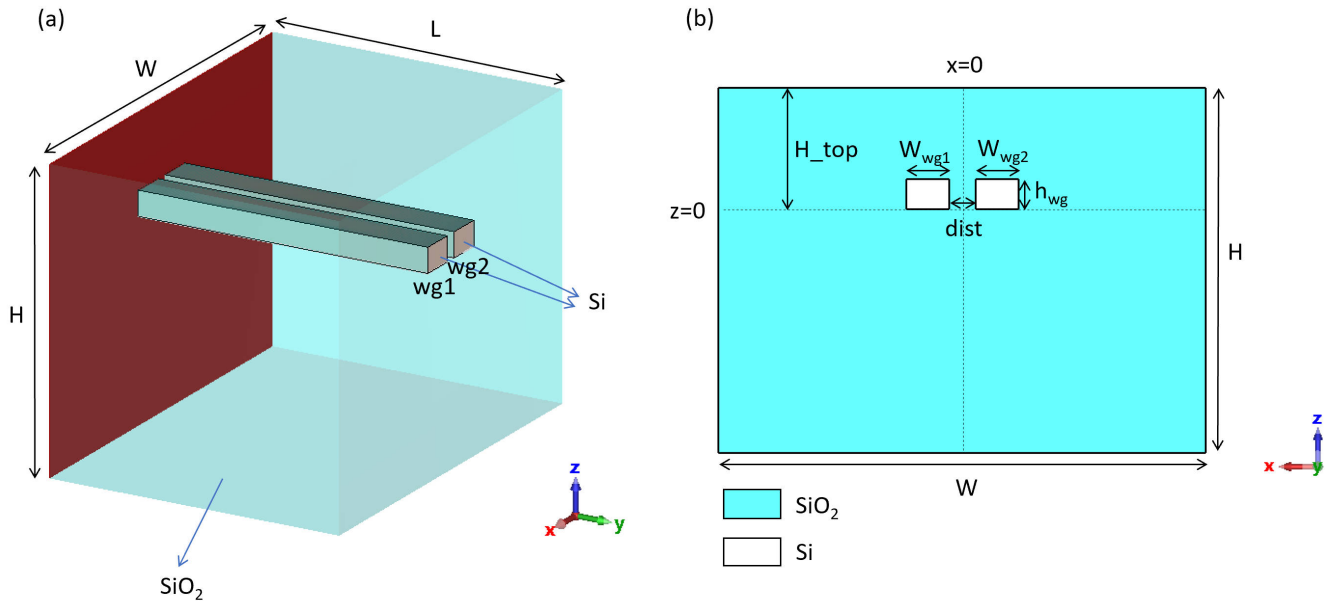

Figure 1: (a) Perspective view and (b) front view of two coupled waveguides $wg1$ and $wg2$.
IMPORTANT NOTE: Parametrize the geometry shown in Figures 1 and 2. You will need to adapt the geometry for Problem 1 and Problem 2.
Consider two coupled ridge waveguides (named $wg1$ and $wg2$ in the sketches) with the geometrical parameters indicated in Figure 1:
- (1) *Units/Settings:* "Dimension": μm ; "Wavelength/Freq": $\mu\text{m}/\text{THz}$; "Settings defined": wavelength.
- (2) *Material:* For silicon, use the material **Silicon (lossy)** from CST material library. For silicon oxide use the attached file (**SiO2.txt**).
- (3) *Align the coordinate system as in Figure 1. Before you start building the geometry, choose **View/Select View/Use z-axis up views**.*
Consider a similar structure as in problem 1, with geometry as shown in Figure 1, but where the two waveguides have different widths: